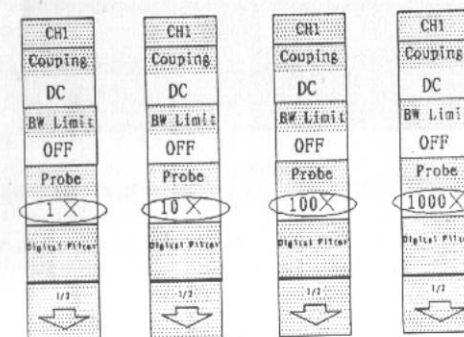

Figure2-3
c. Probe attenuation setting, see Fig.2-3.